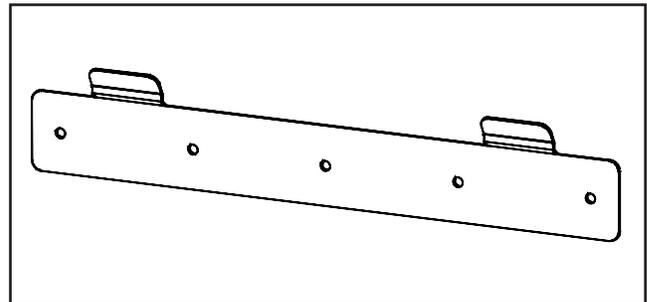

Figure 3.3 - Support Bracket
2. Position the support bracket (see fig. 3.3) which is supplied with the **Glow T180** water heater above the line drawn with the level, respecting the distances indicated. Mark the center positions of the two wall-plugs or anchors. Finally, mark the positions of the water lines and gas pipe.